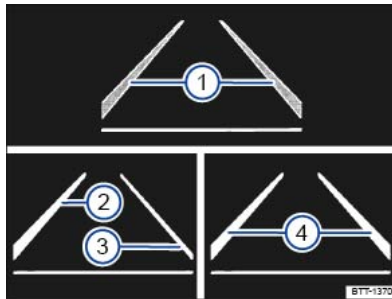

Fig. 147 On the instrument cluster display: lane keeping system displays.
Display areas in the instrument cluster display ⇒ Fig. 147:
- The system has detected a lane marking on both the right and left sides of the vehicle ⇒ *Fig. 147* .